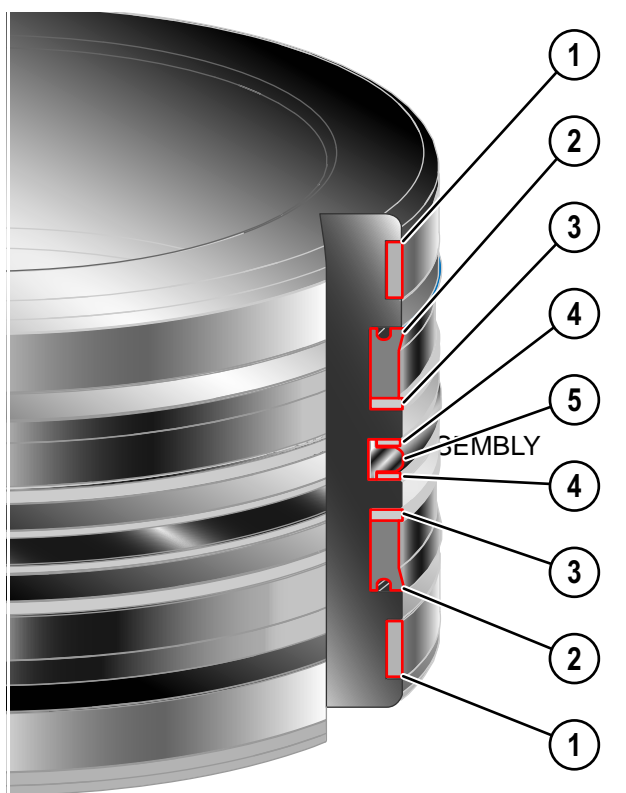

FIGURE 50-26. PISTON REPLACEMENT SEALS
2. Assemble the seals into the appropriate piston grooves. Start with seal (5, Figure 50-26), then move outward to seals (2) to reduce the risk of seal damage. Ensure that seals (2) and (5) are not folded or twisted.
3. Insert backup rings (3) and (4) carefully so as not to stretch any more than necessary. Ensure that the backup ring gaps are on opposite sides of the piston from each other as shown.